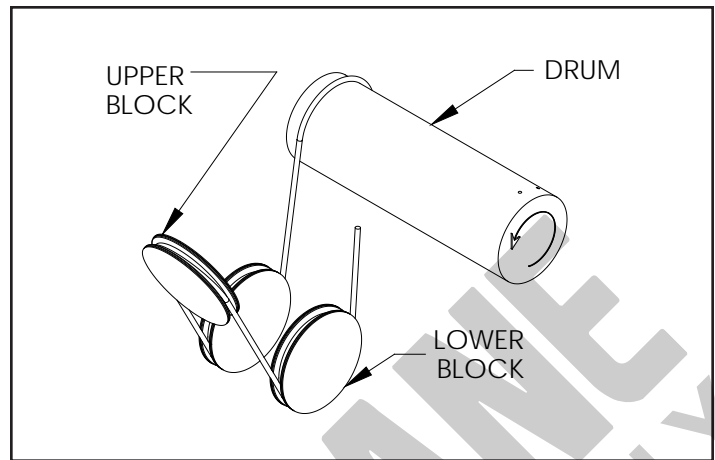

Figure 5-5a. Reeving Diagram - 4 Part Single Reeved.
- (5) With outer lower block covers removed, thread the wire rope through the sheaves of the upper and lower block as shown in Figures 5-5a and 5-5b.
- (6) Attach swaged rope end to the dead end anchor pin and fasten with the retainer rings provided with the hoist.
- (7) Replace the lower block sheave covers.
- (8) Lubricate cable per Paragraph 4-3.